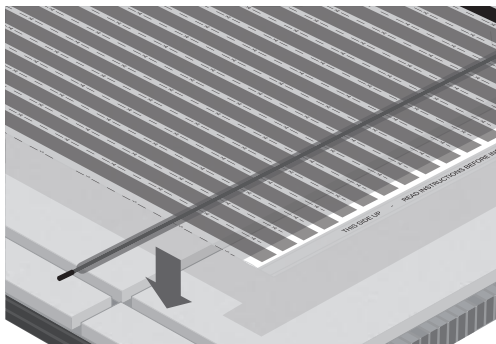

Fig. 5. Cutout for floor sensor
6. Where the conduit pipes from the thermostat goes into the floor, make cutouts in the underlayment boards to make room for these (fig.5)